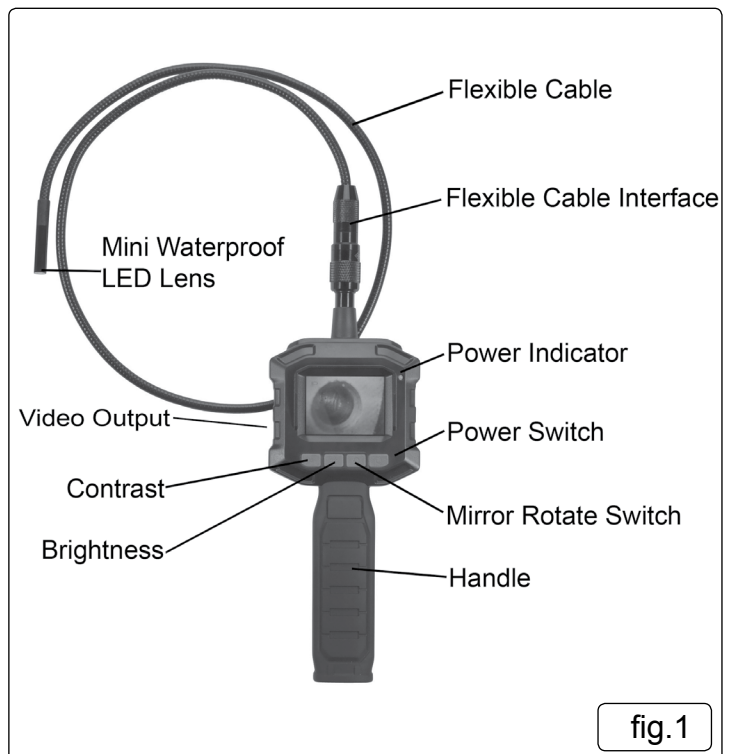

fig.1
- 4.4.1. Press and hold the power switch (fig.1) for about 3 seconds to turn on the camera, the power indicator will illuminate and the LCD will become viewable.
- 4.5.1. In real-time monitoring mode. The mirror image can be adjusted by pressing the Mirror rotate switch (fig.1).